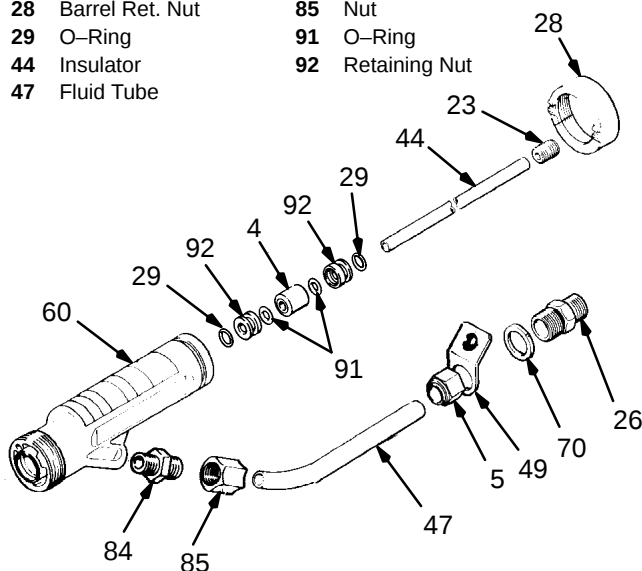

Fig 10
3. Remove the insulator (44) from gun barrel. See Fig 10.
4. Place the barrel on the bench in a vertical position with the back of the barrel touching the bench. Insert rod (79e) supplied (see Parts Drawing) into the front of the barrel. Gently tap out the fluid needle packings (4, 29, 91) and retaining nuts (92).
6. Slide the packing nut (23) onto the fluid needle shaft (61). Then slide the insulator (44) onto the fluid needle. The holes in the one end of the insulator (44) must face toward the electrode (55) end of the fluid needle shaft (61). Refer to **Parts Drawing**, page 20.
7. Install the fluid needle packings (4, 29, 91) and retaining nuts (92) onto the fluid needle shaft (61) in the order shown in Fig 10.
3. Place fluid tube (47) back into the adapter (26). Tighten the tube fitting (5) over the adapter. See Fig 10.